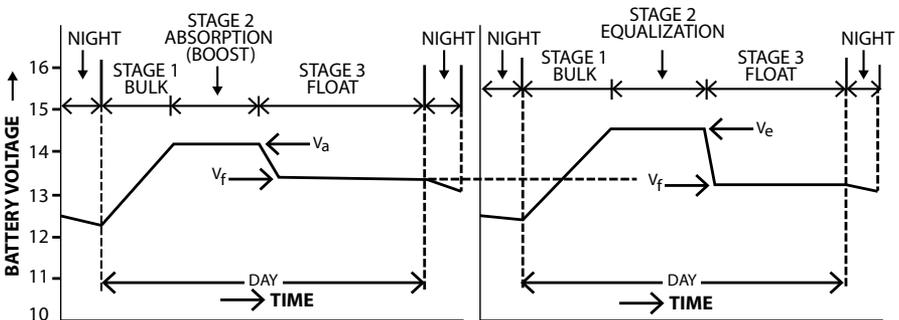

Fig 4.1A -
Please refer to Figs 4.1A and 4.2B above
- **Normal Charging Cycle (Fig 4.1A):** This cycle is used for normal day-to-day charging. Charging is sequential: Stage 1: Bulk Stage (Maximum available Current = Instantaneous Short Circuit Current "Isc" of the panel) → Stage 2: Absorption (Boost) Stage (Constant Voltage) → Stage 3: Float Stage (Constant Voltage).
Please refer to Fig 4.1A